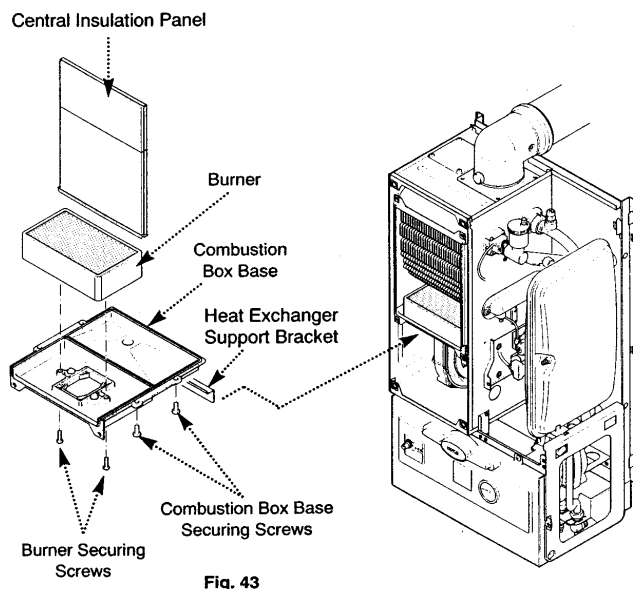

Fig. 43
NOTE: The burner skin is fragile - handle with care. Clean and if necessary replace the burner (Fig. 43) (see note, page 26).
h) Loosen the two screws retaining the heat exchanger support bracket and slide to the left to remove (Fig. 43).
j) Lower the central insulation panel and check condition (Fig. 43). Replace the lower insulation pad if necessary.